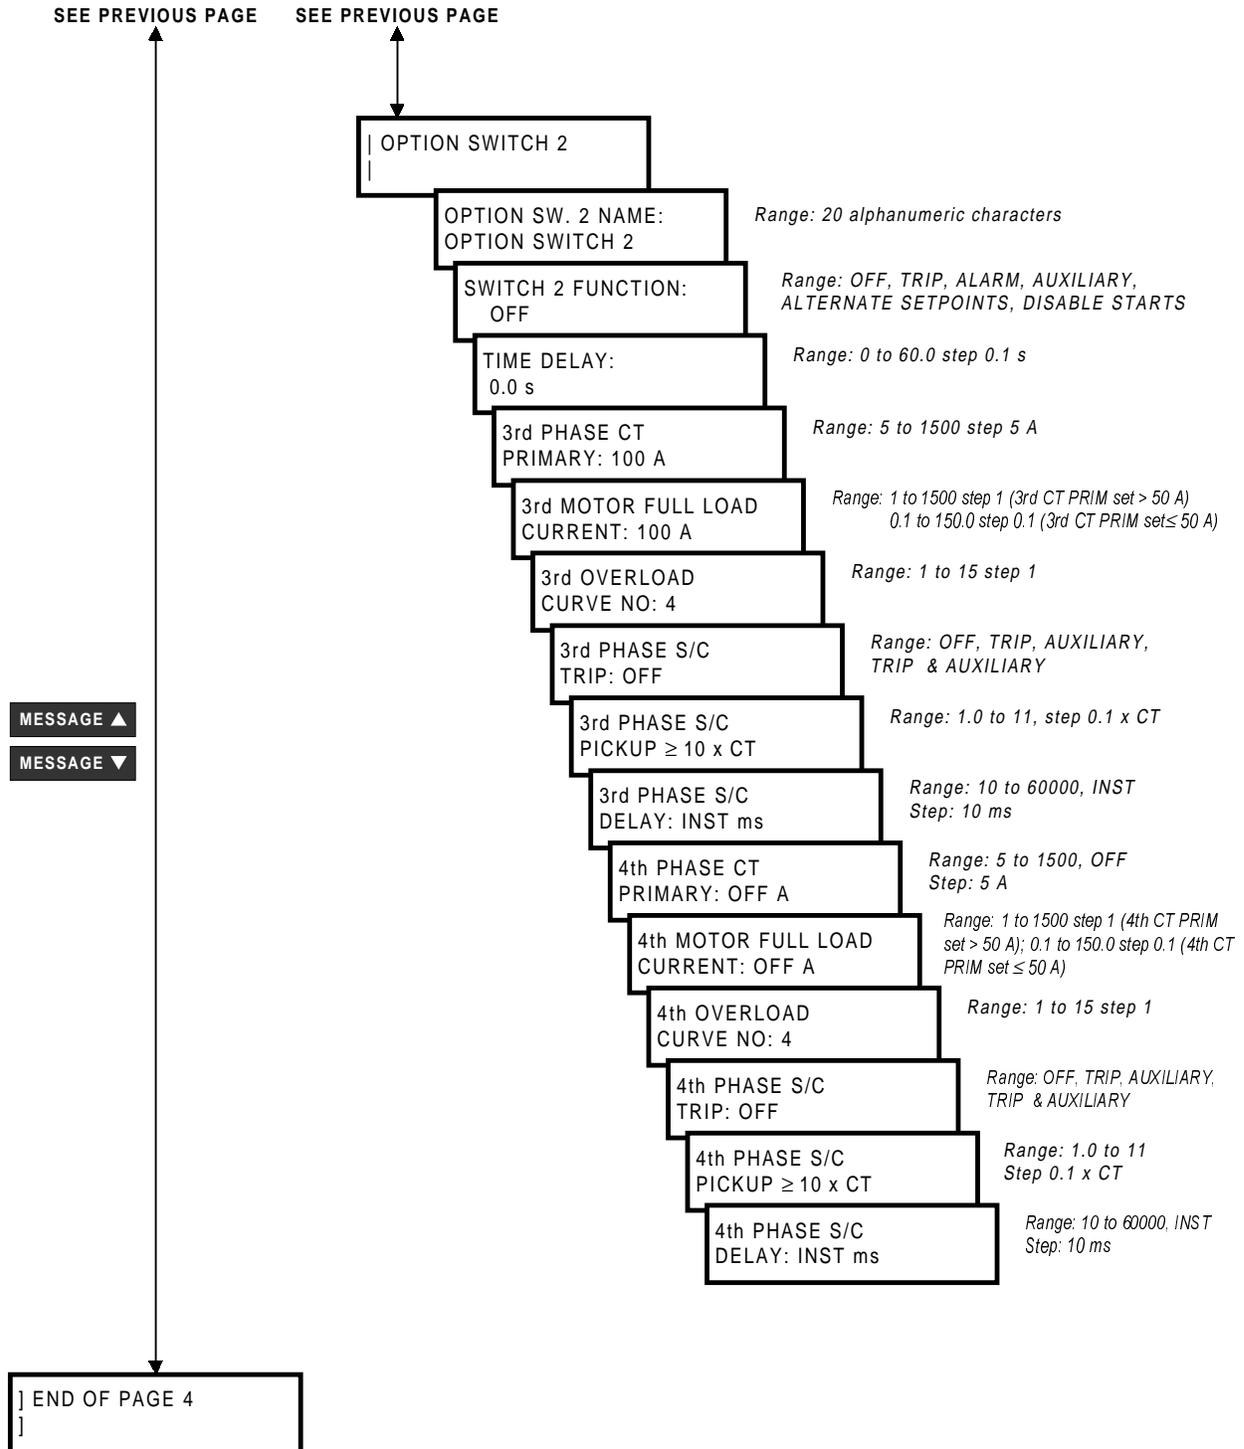

Figure 4–5: SETPOINTS PAGE 4 – PROTECTION
- **OVERLOAD CURVE:** One of 15 different time/overload curves can be selected with the Phase Overload Curve number setpoint to closely match the thermal characteristics of the motor. Overlay motor curve data, if available, on the time overcurrent curves of Figure 4–6: PHASE TIMED OVERLOAD CURVES on page 4–21 and choose the curve that falls just below the motor damage curve.
Each of the curves represents an I^2t characteristic of a motor. If no motor curve data is available, this setpoint can be set using the locked rotor time from the motor nameplate. Plot the point corresponding to the rated locked rotor or stall time (vertical axis) at the rated locked rotor current (horizontal axis). For example, choose the point at 9 seconds and $6 \times \text{FLC}$ for a motor with a locked rotor time of 9 seconds and a locked rotor current of $6 \times \text{FLC}$. If the stall time is specified at some other inrush current, the point can be plotted on the time/overload curves of Figure 4–6: PHASE TIMED OVERLOAD CURVES on page 4–21 and the next lowest curve selected. Curve points are also shown in tabular form in Table 4–2: 239 PHASE OVERLOAD TRIP TIMES (SECONDS) on page 4–22. Points for a selected curve can be plotted directly on curves for associated equipment to facilitate a coordination study. These points can also be entered into a computer co-ordination program to assist in curve selection.